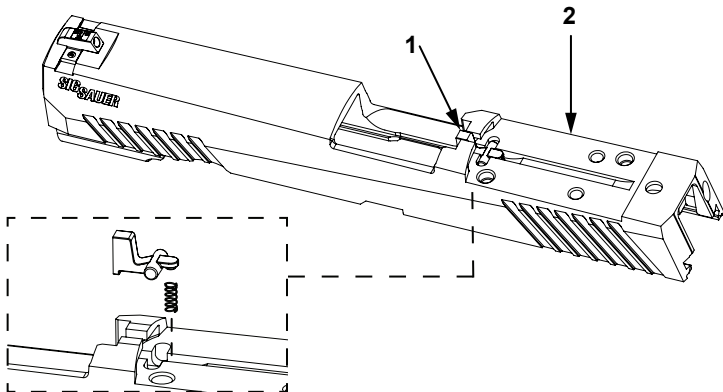

Figure 9. Inspect Slide
9. Ensure loaded chamber indicator (LCI) (Figure 9, Item 1) is properly installed in slide. Clean sight mounting surface of slide (Figure 9, Item 2).